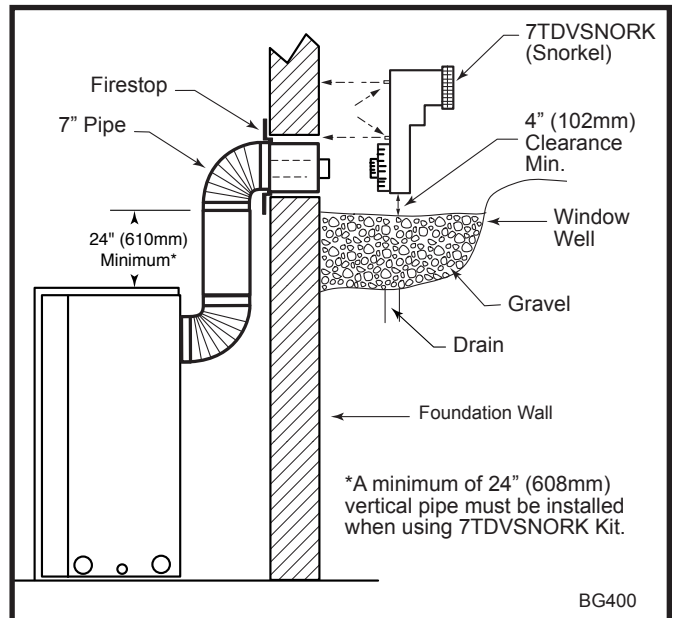

Fig. 34 Below grade installation.
2. Remove soil to a depth of approximately 16" (406mm) below base of snorkel. Install window well (not supplied). Refill hole with 12" (305 mm) of coarse gravel leaving a clearance of approximately 4" (102 mm) below snorkel. (Fig. 34)
7. Level the soil to maintain a 4" (102 mm) clearance below snorkel. (Fig. 34)